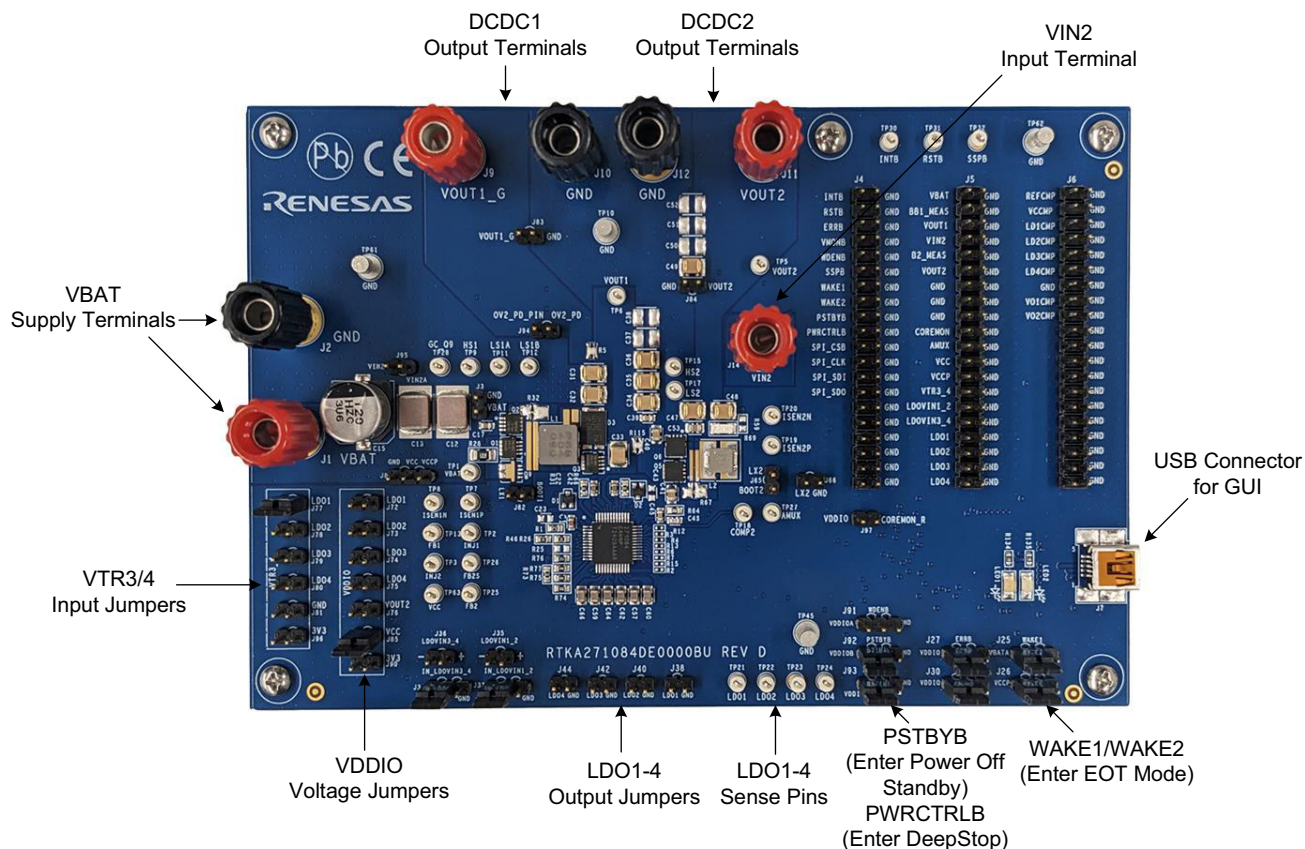

Figure 2. RAA271084 Evaluation Board: Connections, Headers, and Test Points
The evaluation board with connections, headers, and test points is shown in Figure 2.
- To start the board, apply the input voltage ($2.7V < VIN < 42$) to the VIN supply terminals J1(+) and J2(-) (see Figure 2).
- For EN control, use WAKE1 and WAKE2 at J25 and J26 (see Figure 2).
- For VDDIO voltage supply, use the VDDIO voltage jumpers to select the supply source (see Figure 2).
- For tracker reference input, use the VTR3/4 Input jumpers to select the supply source (see Figure 2).
For manual control of EN, ensure that the J25 and J26 jumpers are not installed. WAKE1/WAKE2 enables the IC (see Figure 2).